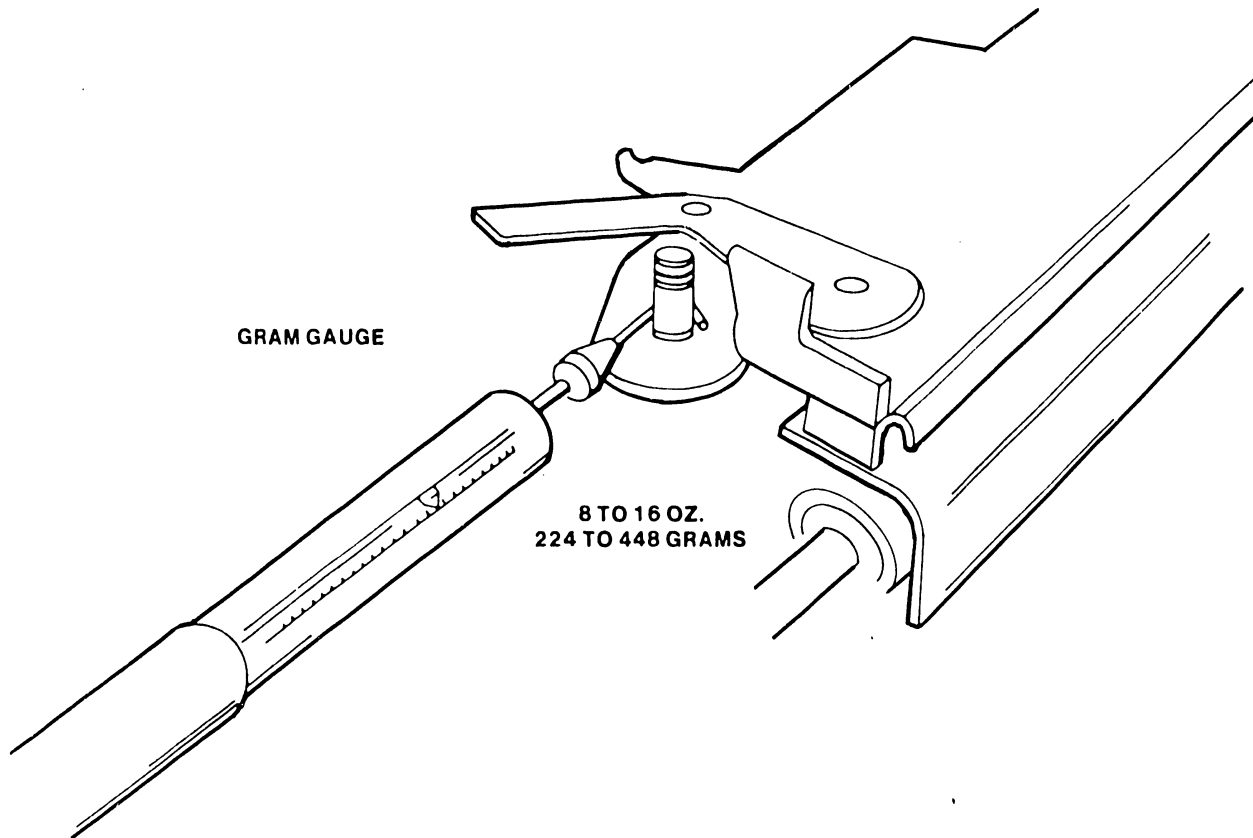

FIGURE 5-20 RIBBON DRIVE SPRING TENSION CHECK
2. Check that the ribbon drive has 8 to 12 ounces (224 to 336 grams) of spring tension (measure with gram gauge WL #726-4417 at the base of the spike driver). Push at base of spike driver as shown in Figure 5-20.